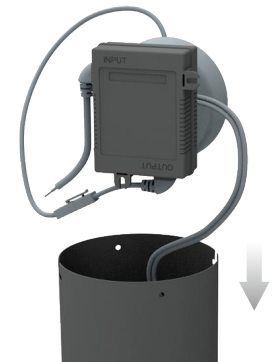

Fig. 2.3
2.3 Reinsert the control box and adapter into the fan bucket, following the configuration shown in Fig. 2.3.